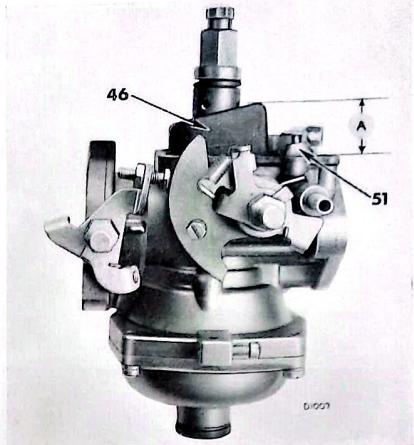

Fig. 7. Measuring float height
Float Chamber (Fig. 7)
10. Placing an aluminium washer (52) over the threads of the needle valve (51) screw the valve firmly into the carburettor body.
11. Place the float assembly (46) into position and secure it with the fulcrum pin (45) as shown on Fig. 7. Check that the highest point of the float when the needle is against its seating, is 18 mm. above the face of the main body. See "A". Reset the level by carefully bending the tag which contacts the end of the needle. The addition of a thin fibre washer under the needle valve seat will lower the fuel level.
7. Insert the spindle (29) into the bore of the carburettor, centralise the spindle and rotate it to bring the two counter sunk holes upwards. Ensuring that the two raised "pips" on the face of the valve are upwards and outwards, slide the valve into the slotted spindle until the "pips" contact the spindle. Turn the spindle to close the throttle and secure the valve by securely tightening two screws (17).
8. With the larger coils leading, place the spring (20) over the throttle spindle boss, at the same side as the choke cam lever. With the butterfly in the closed position, engage the stop lever (62) over the flats on the spindle, simultaneously engaging the ends of the spring as shown on Fig. 7, to ensure that the valve is spring loaded in the closed position. Fit the lockplate (63), tighten the coupling nut (64) and secure by turning the lockplate.
9. Locate the throttle stop lever (21) on the flats of the throttle spindle, at the opposite end to the actuating lever, followed by the connecting link (58). Secure the lever and link with a lock washer and nut.